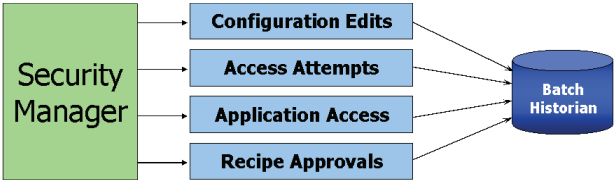

Figure 8. Batch Security History
- Security events occur whenever the Batch Manager captures and logs security events to the Batch Historian (refer to Figure 8). Configuration edits include security database changes such as deleting a user and changing a user's password.